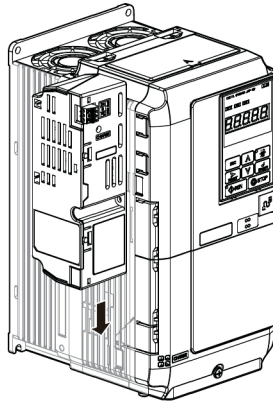

Figure 10: Slide the Option onto the Drive
5. Slide the option downward as indicated in Figure 10 to lock it into place on the drive.